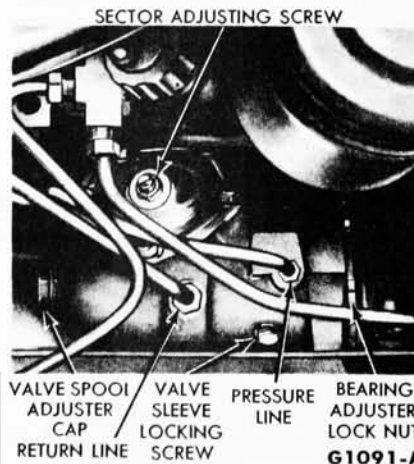

FIG. 1—Adjustments
1. Disconnect the pressure line from the gear (Fig. 1) and install the pressure testing tool between the line and the gear. **Be sure that the pressure gauge is between the pump and the shut-off valve on the tool.**